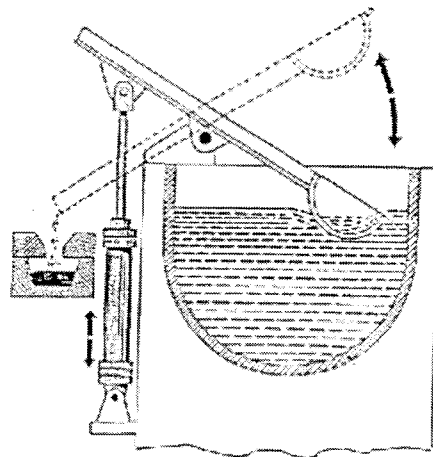

Figure 1
17. Illustrate the control of a pneumatic double acting cylinder using two electrical power sources of 0V and 24V enabled DCV. This is used to draw molten metal by raising and lowering of the ladle in a smelting crucible. Also note that speed of raising and lowering is separately adjustable as shown in figure 1